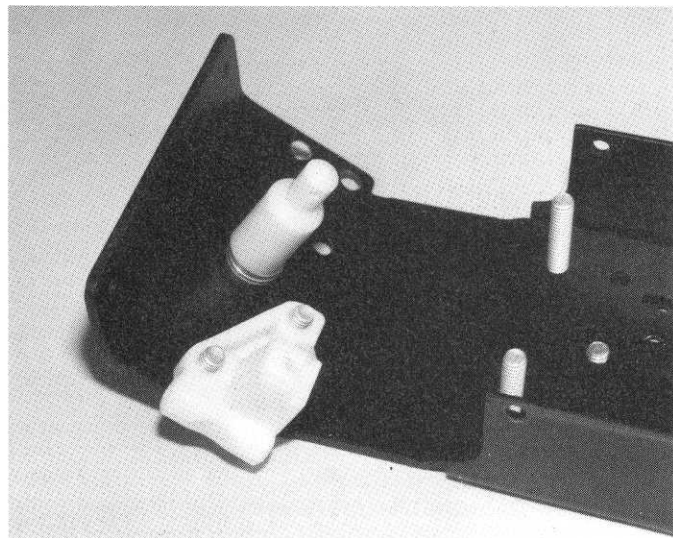

Fig. 6
□ **Fig. 6** Install the L.H. suspension mount, as shown, with the 3 Phillips screws. Now install the right hand mount.